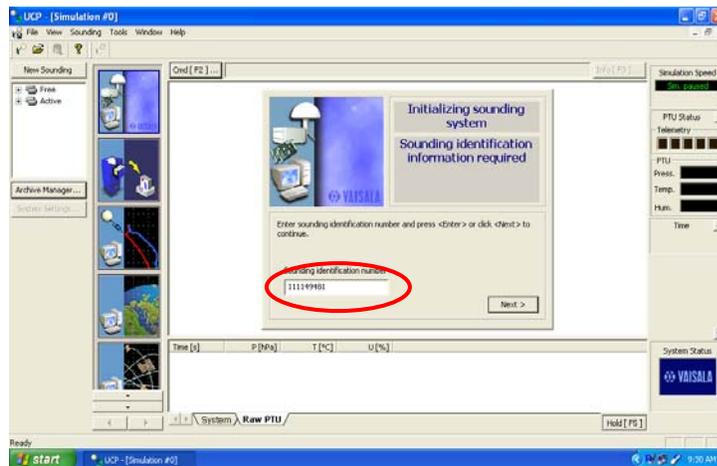

Figure 6
29. On the next screen (Figure 6), enter the sounding number using using the following format: **90MMDDYYn**.